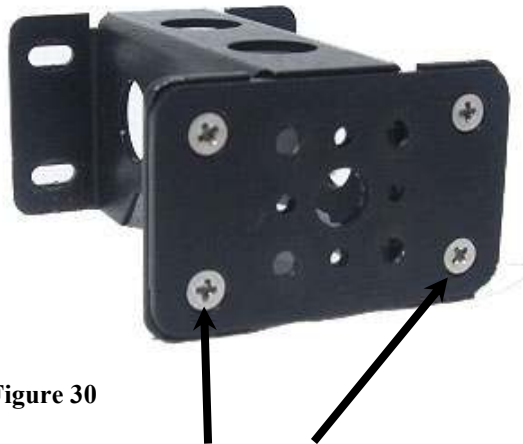
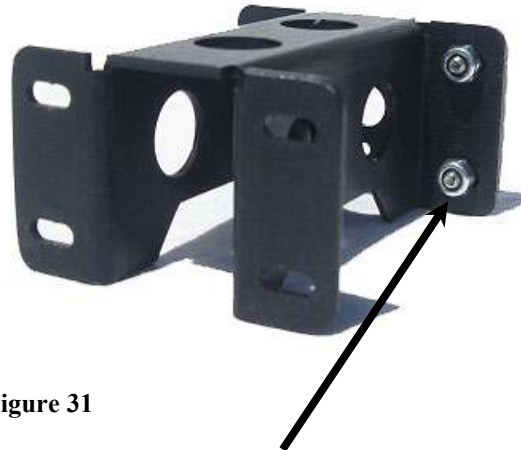

Figure 30
Figure 31
1. Using (4) #4 – .31” countersink screws and lock nuts, install the single axis adapter plate as shown in figure 30 and figure 31. When installing the single axis adapter to the girder, be sure to center the single axis adapter plate before tightening the screws.